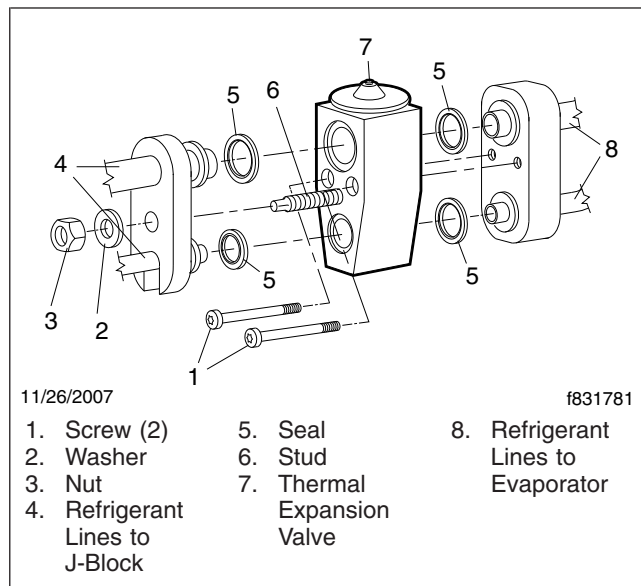

Fig. 10, Thermal Expansion Valve Installation
23. Disconnect the refrigerant lines from the thermal expansion valve, and cap the lines immediately to prevent contamination of the system. See Fig. 10.